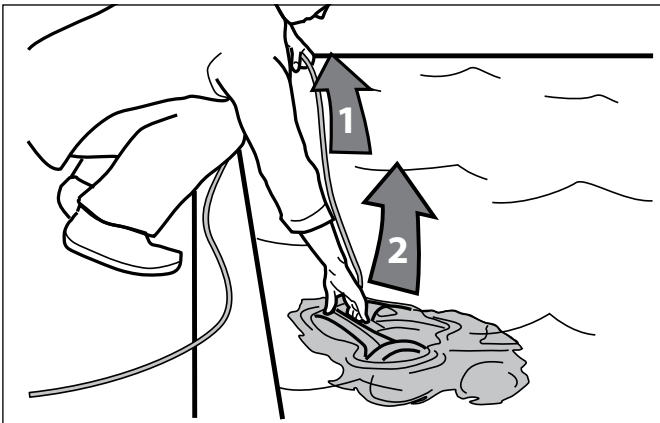

Figure 18. Remove Cleaner From Pool with Handle
- When the cleaner is within arm's reach, use the handle to remove from the water (Figures 18, 19). Never lift the cleaner out of the pool by the floating cable.